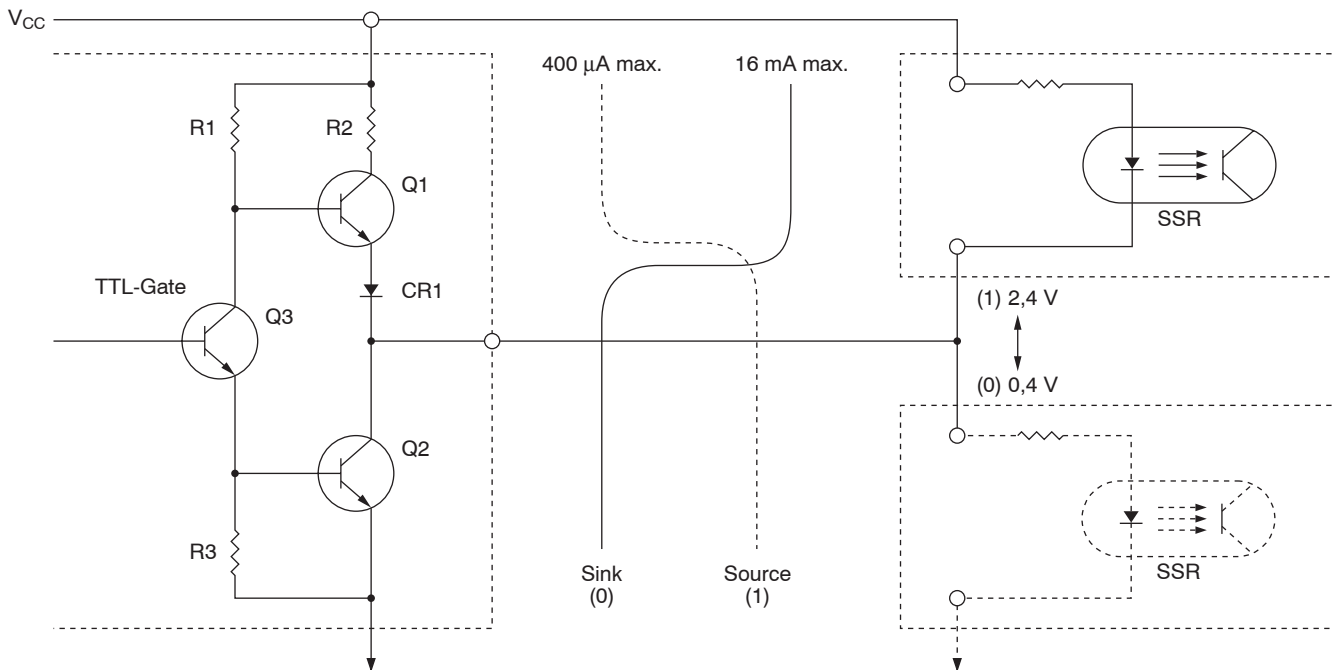

Fig. 6: Typical circuit of a TTL gate driving SSR
The activating signal may be derived from mechanical contacts or solid state devices such as those shown in figure 6 The minimum supply voltage through these contacts may be equal to the SSR turn-on voltage (3 volts dc typical), whereas the positively or negatively referenced transistors require a minimum supply voltage a few tenths of a volt above the specified turn-on threshold, say 3.5 volts
The relationship of the TTL gate to an SSR is illustrated schematically in Fig. 6. In this configuration the SSR supply voltage and the gate V_{CC} should be common and comply with the TTL specified limits of say 5 volts \pm 10%. It can be seen that with a positively referenced SSR and the gate at logical (0), Q2 is operating much like a discrete NPN transistor in the grounded-emitter saturated state. In this mode the gate can sink up to 16 mA with
It should be noted that the 2.4 volt gate output in the logical 1 state relates only to a negatively referenced load. It does not represent a voltage source to a positively referenced load (SSR), where it would appear to be greater than the off state voltage. Referring again to Fig. 6, Q2 would be off and CR1 is reverse biased, thus presenting essentially an open circuit with virtually zero potential across the SSR.
The off state leakage current in the driving semiconductor devices shown in Figs. 6 to 8 is significant, just a few microamperes, which could not possibly turn on the SSRs. However, the off state (output leakage current of any packaged solid state driving device (e.g. temperature controller, etc.) should first be checked for compatibility with the SSR.